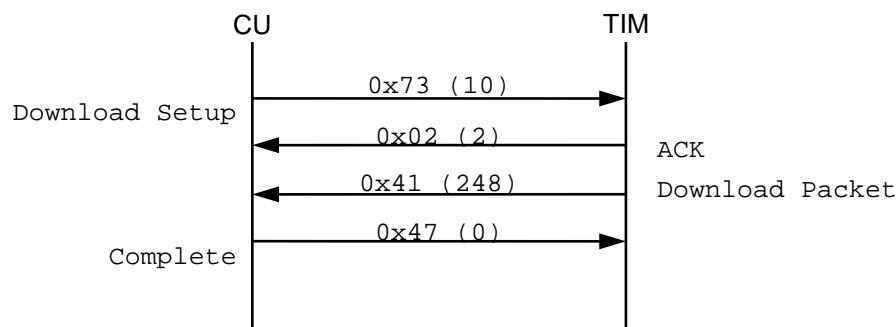

Figure 1 - Download command sequence
Information in non-volatile memory may contain some information that is useful in system development. Table 18 shows the data available in non-volatile storage. A sequence of commands is required to download this information, and the information will need to be parsed according to the table. Figure 1 shows the command sequence between the connected unit (CU) and the thermal imaging module (TIM).
A download from the TIM is initiated by the CU with the “Data Transfer Download Setup” message (0x73). This messages has five, 16-bit parameters (10 bytes total). The parameters identify the device; region, range, and size of the download (see Figure 1)